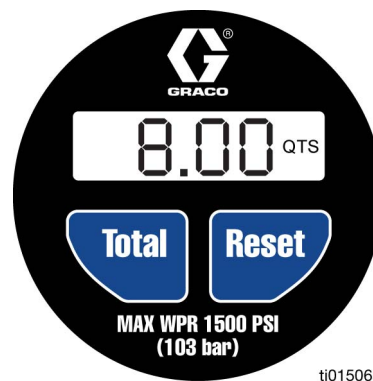

FIG. 9
3. Press and hold TOTAL until 8.00 QTS (or 8.00 L) displays on the screen, as shown in FIG. 9.